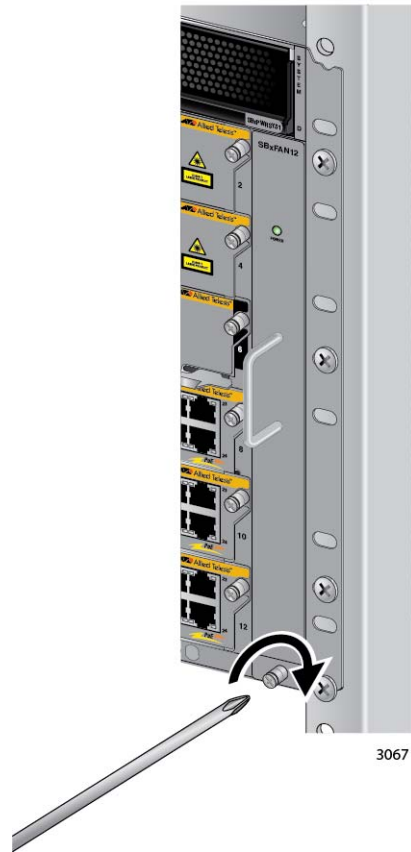

Figure 155. Tightening the Screw on the AT-SBxFAN12 Fan Module
3. With a #2 Phillips-head screwdriver, tighten the screw at the base of the module to secure the module to the chassis. Refer to Figure 155 on page 231.